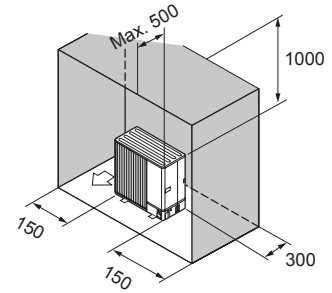

Fig. 4-29
- ⑥ Obstacles at rear, sides, and above only (Fig. 4-29)
(3) When installing multiple outdoor units (Refer to the next page)